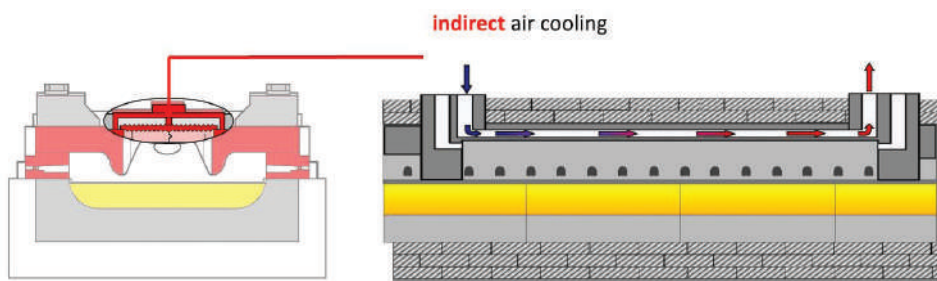

Figure 4.19
2.6.2 Indirect cooling: The following Figure 4.19 shows indirect air-cooling system, where the cooling of glass is done by removing the heat from the passage area (chamber) inside the superstructure of the forehearth. As the cold air cools the super structure and gets hotter while passing through the channel, makes the glass to release more and more heat to the channel by radiation. This creates cooling of glass. The cooling can be increased or decreased by increasing or decreasing the cooling air flow.